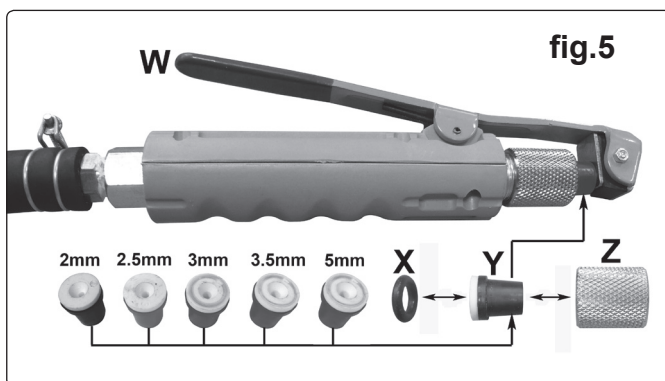

fig.5
- 4.4.1 Referring to fig.5, depress and hold the blasting gun handle (W) to release the seal on the nozzle. Unscrew and remove the knurled nozzle holder (Z) and release the handle (W). Push the nozzle (Y) and the 'O' ring (X) out of the holder. Insert the required nozzle into the back of the holder (Z) followed by the 'O' ring (X). Depress the blasting gun handle and screw the knurled nozzle holder back into place.
- 6.3** The unit is supplied with 5 ceramic nozzles. See fig .5. Select the appropriate nozzle for the task.